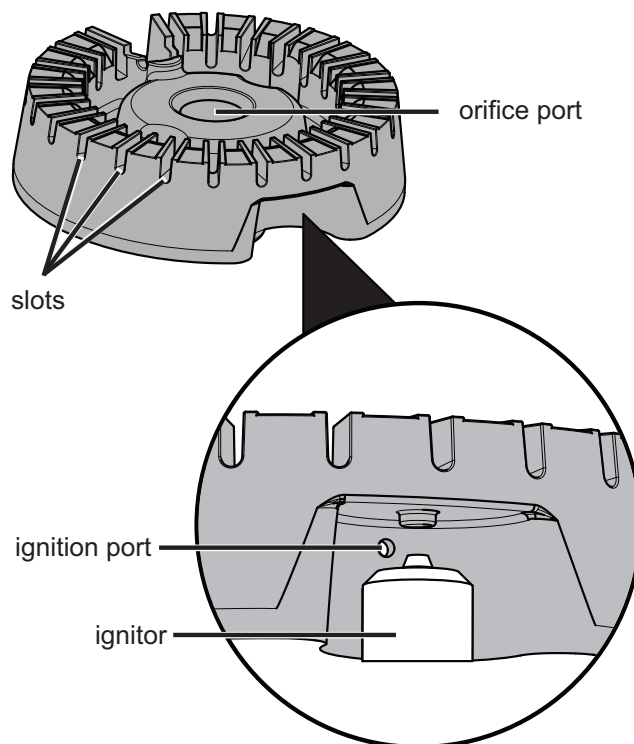

Figure 10: Cooktop cleaning
3. Use a toothbrush to clean all over the burner head (see Figure 10).
4. Use the toothbrush to clean the slots and holes in the burner (see Figure 10).
5. Use a needle or fine wire to clean out the ignition port (see Figure 10).